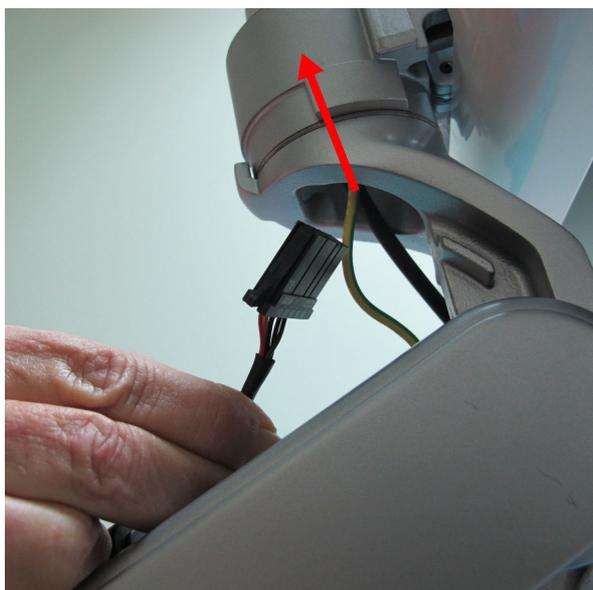

Figure 8-123 Threading the Display to OPIO Cable
- 3.) Thread the "display to OPIO cable" via the base of the lower articulated arm aperture upwards towards the monitor as shown in Figure 8-122 below and Figure 8-123 below.